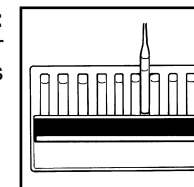

Figure 5
- b. **High Range Comparator (fig. 5):**